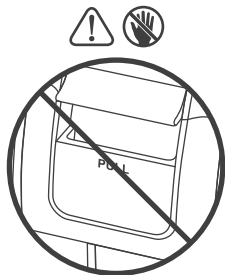

Fig. 4
**CAUTION:** DO NOT pull the Latch to open the Cover during the brewing period. (Fig. 4)